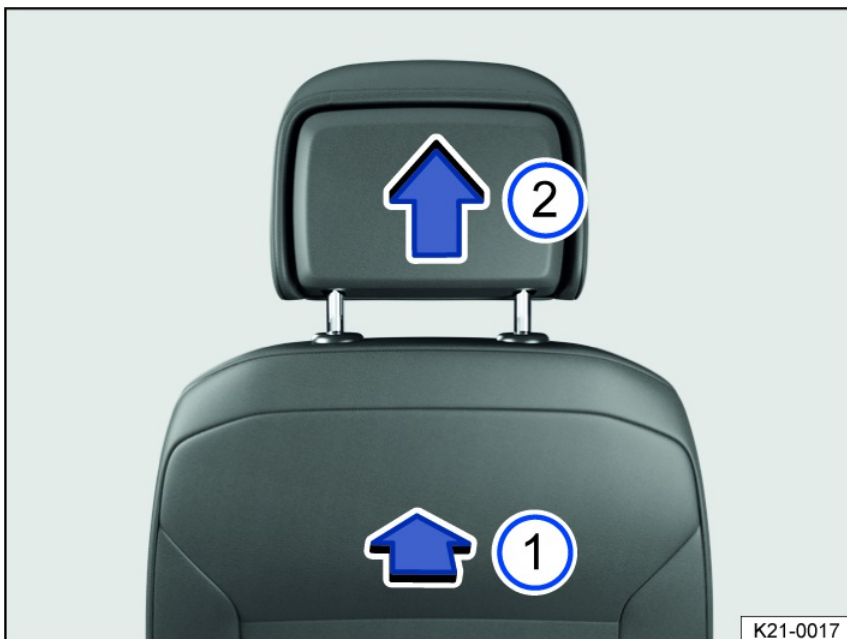

Fig. 75 General example: removing the front head restraint.
2. To release, find the notch on the rear side in the marked area *fig. 75*, push inwards in the direction of the arrow and hold.
3. Pull out the head restraint in the direction of the arrow *fig. 75*.